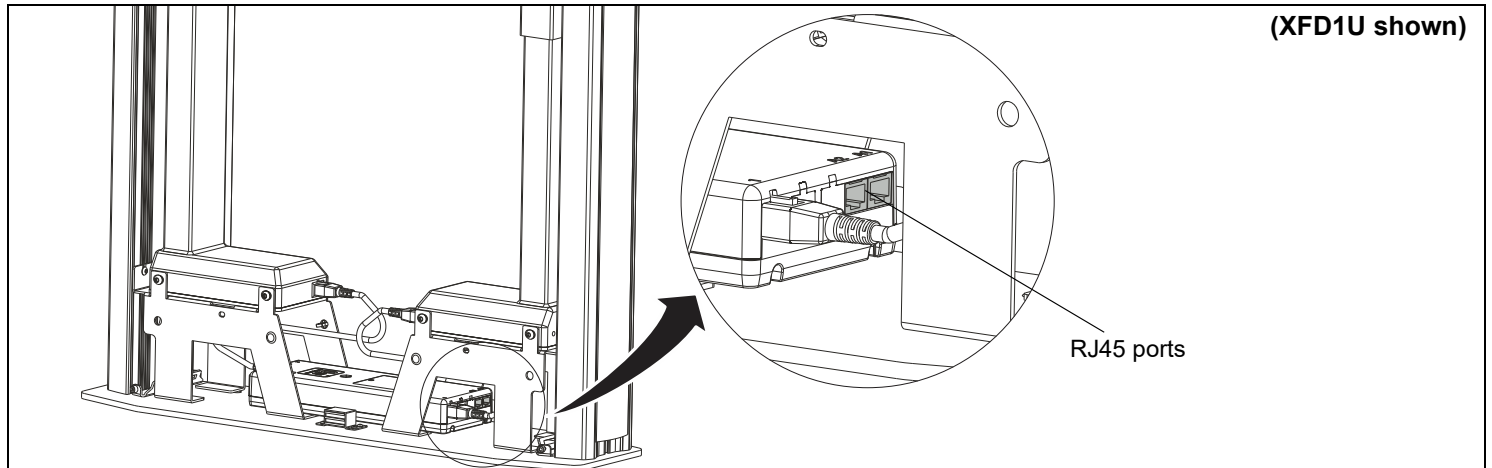

Figure 2
2. Plug in the Bluetooth® dongle (B) into the available RJ45 port on the motor control box. (See Figure 2)